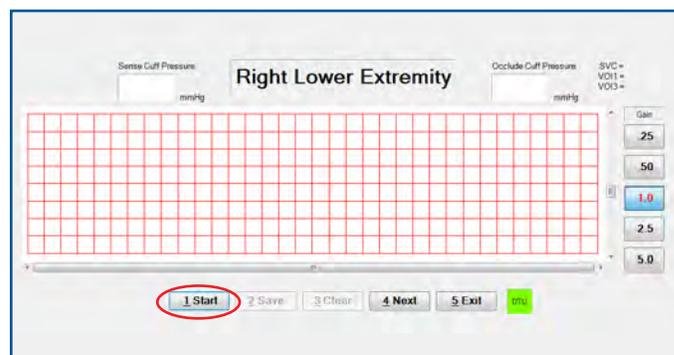

FIGURE 2.9 - Venous Testing - "Start" Button
10. The patient should lay supine with the feet elevated at approximately 30 degrees using the positioning cushion, and the leg being tested externally rotated in order to relieve the pressure on the iliac veins. Apply the Venous Occlusion cuff to the patient above the knee (contacting the skin but not overly tight) and connect to the Arterial/Occlusion Cuff port. Snugly apply the Venous Sense cuff around the calf and connect it to the Venous Sense Cuff port. *Note: By default, testing begins with the right limb (Figure 2.9).*
11. Click the “Start” button or press 1 to inflate the Venous Sense cuff (Figure 2.9). When the Sense cuff is inflated, the Occlude cuff will then automatically inflate.